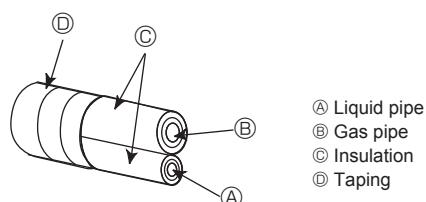
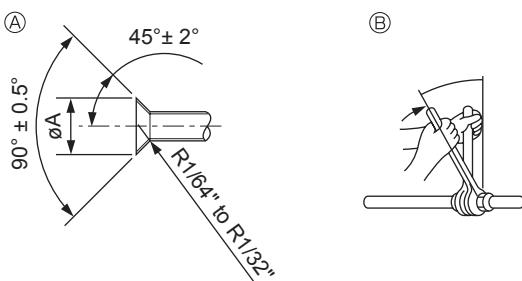

Fig. 4-4
Fig. 4-5
⑩ (Fig. 4-5)
### 4.4. Connecting pipes (Fig. 4-4) (Fig. 4-5)
[Fig. 4-5]